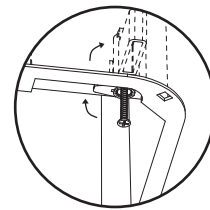

figure 1
3. Connect the ducting to the air outlet assembly. Insert unit into the roof being sure to pull the side clips inwards so the body can pass through the hole without damaging the plaster. Rotate the swing clips to hold the unit in place (figure 1) then tighten screw to let the clip hold onto the ceiling board (figure 2).